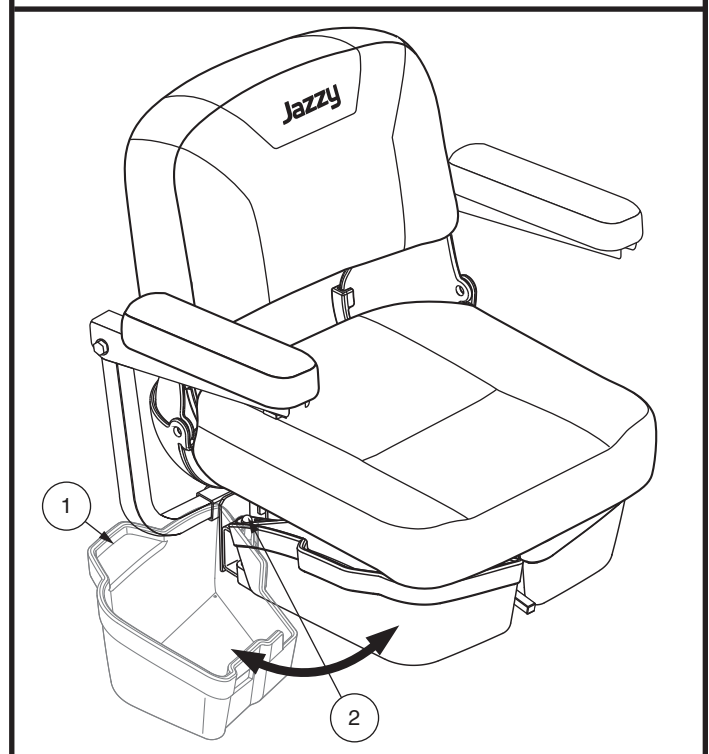

Figure 28. Under-seat Storage
1. Lift up slightly on the latch on the side of the under-seat storage bin (see figure 28) and swing the under-seat storage bin out and away from the Travel Scooter.
1. Lift up slightly on the latch on the side of the under-seat storage bin (see figure 28) and swing the under-seat storage bin out and away from the travel scooter until it is fully open.
2. If equipped, remove under-seat storage. See **Figure 28**.
7. If equipped, install under-seat storage. See figure 28.